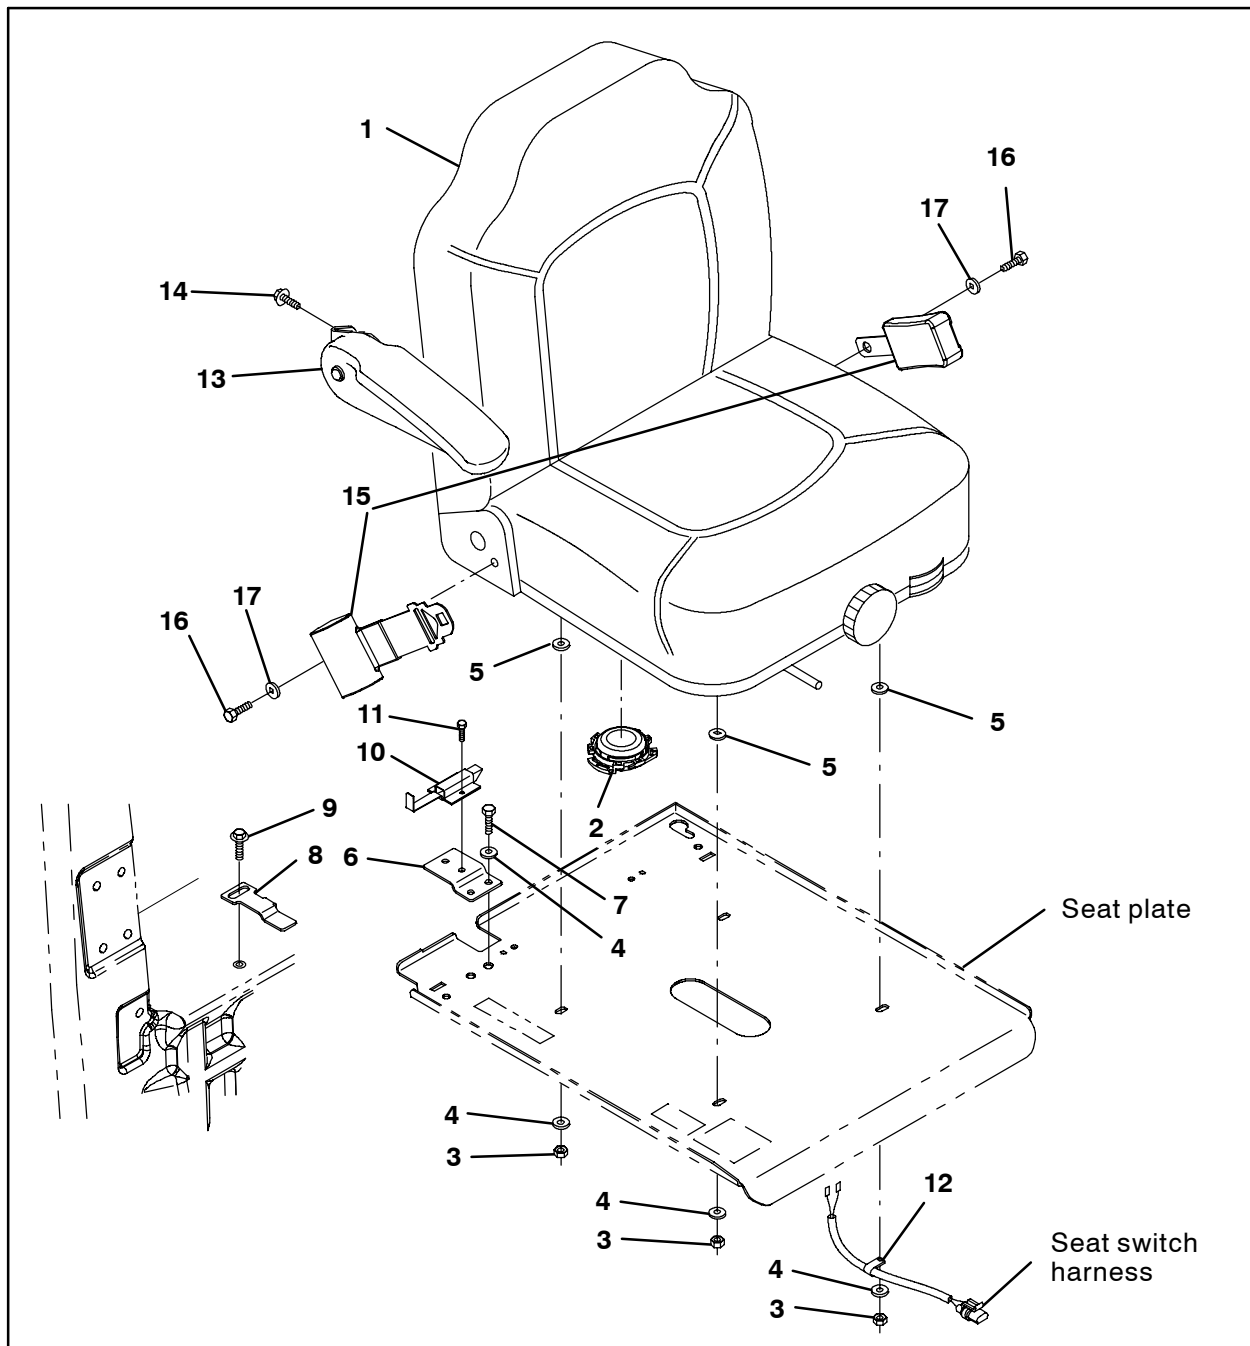

FIG. 2
2. Use a SEMS M8 hex screw (9) to install the latch bracket (8) onto the machine. Refer to Fig. 2.
3. Use two M5 hex screws (11) to install the latch (10) onto the latch bracket (6). Refer to Fig. 2.
4. Use two M8 hex screws (7) and two flat washers (4) to install the latch assembly assembled in the previous step onto the seat plate. Refer to Fig. 2.
5. Use a hex screw (16) and a flat washer (17) to install the seat belts (15) onto the suspension seat (1). Refer to Fig. 2.
6. Install the seat switch (2) into the seat switch receptacle located on the bottom of the suspension seat (1). Refer to Fig. 2.
7. Position the suspension seat (1) onto the seat plate and connect the seat switch harness to the seat switch.
8. Install the cable clamp (12) onto the seat switch harness. Refer to Fig. 2.
9. Use four hex nuts (3) four flat washers (4), and four spacers (5) to install the suspension seat (1) and cable clamp (12) onto the seat plate. Refer to Fig. 2.
10. Use two SEMS hex screws (14) to install the arm rest (13) onto the suspension seat (1). Refer to Fig. 2.